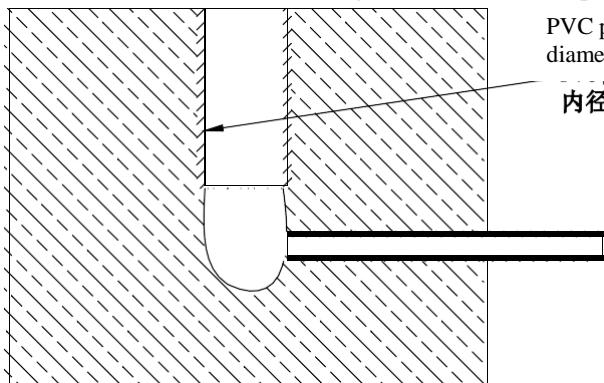

Figure 3
1. Embed a 120mm long PVC pipe in the installation position of the lamp and fix it with concrete (Figure 3). The dimensions of the PVC pipe refer to Table 2;